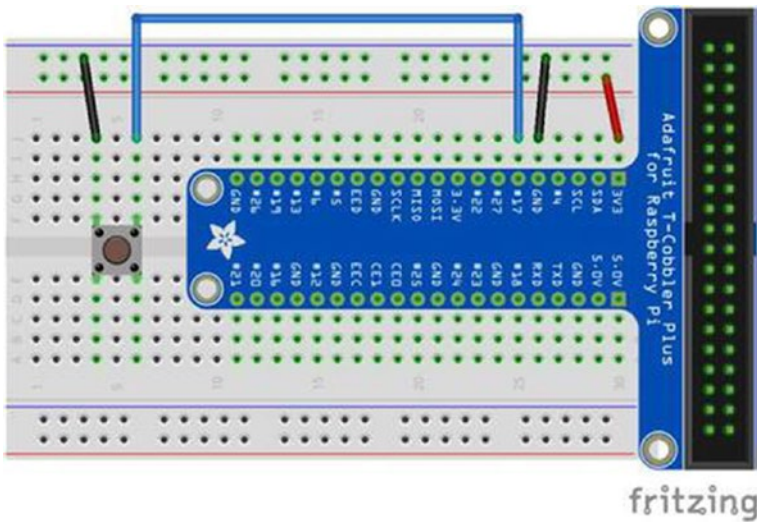

Figure 4-5. Push-button example circuit layout
1. Attach the T-Cobbler as shown in Figure 4-5. One row of pins should be on either side of the split in the board. The placement is up to you; however, I generally attach it so that the ribbon cable header is off the board. This allows maximum access to the breadboard.